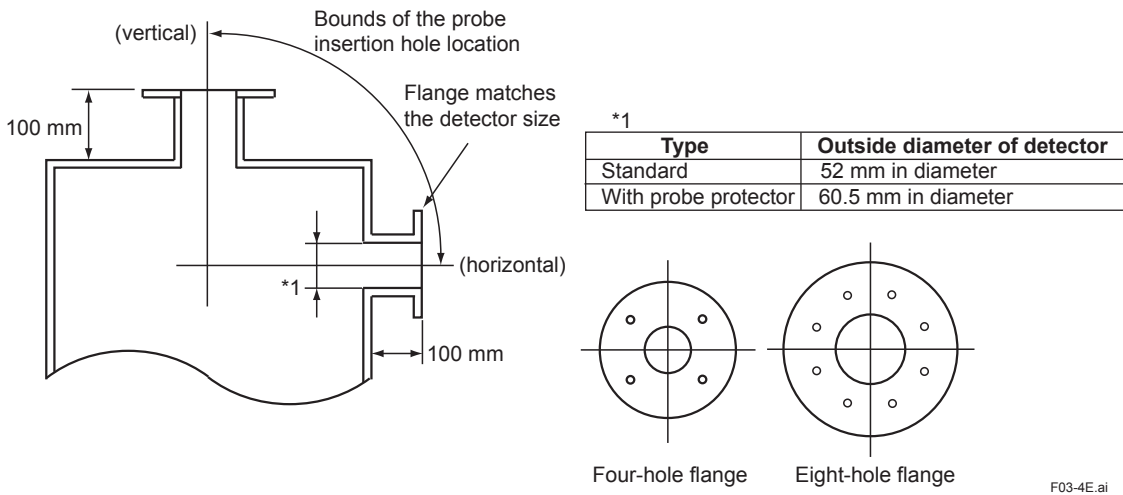

Figure 3.6 Example of forming probe insertion hole
- The outside dimension of detector may vary depending on its options. Use a pipe that is large enough for the detector. Refer to Figure 3.6 for the dimensions.
- (1) Do not mount the probe with the tip higher than the probe base.
- (2) The detector probe should be mounted at right angles to the sample gas flow or the probe tip should point downstream.